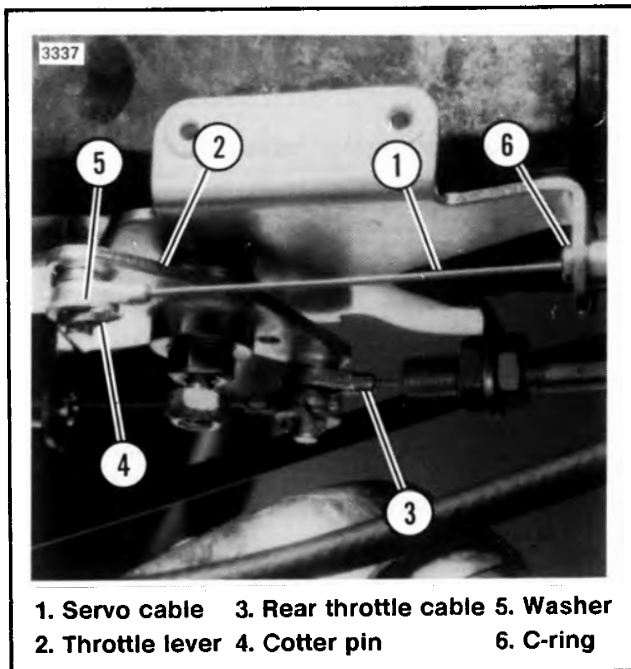
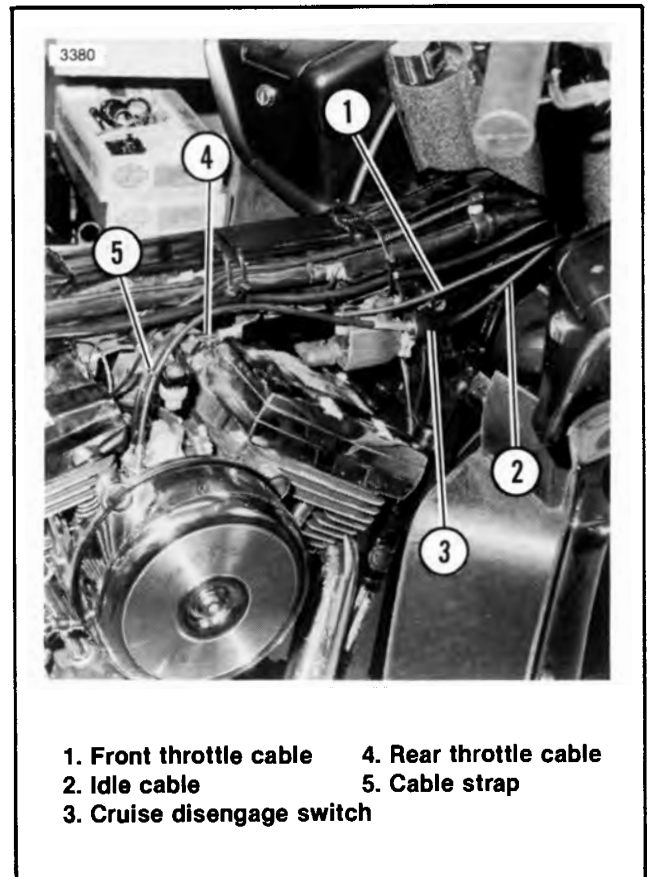
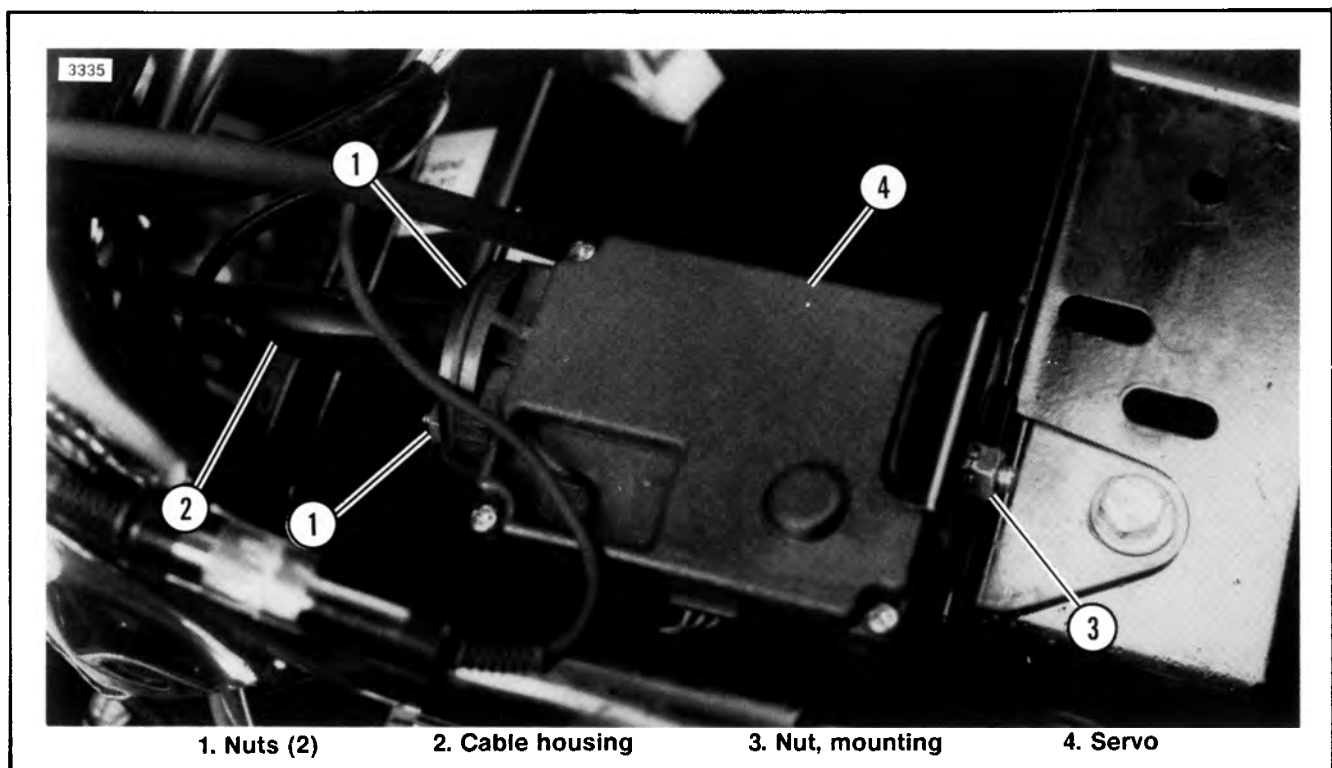

Figure 8-34. Cruise Throttle Cable Assembly
Figure 8-35. Idle, Rear and Front Throttle Cables
Figure 8-38. Servo, Cruise Control
See Figure 8-34. The cruise control servo cable (1) is connected to a bell crank or throttle lever (2). When the servo pulls or retracts cable (1) the bell crank pivots and pulls on the rear accelerator cable (3) opening the throttle plate at the carburetor. See Figure 8-35. The rider can open the throttle in the normal manner by twisting the right handgrip. This movement causes the front throttle cable (1) to pull the rear cable (4) and the throttle open. The idle control cable (2) allows rider to close the throttle by twisting handgrip outward and this cable contains an in-line switch (3) to disengage cruise control when throttle is rolled-back or closed.
See Figure 8-35. The throttle opening cable, cable (1) and (4), must be adjusted with the idle cable (2) completely loosened (slack). Therefore, adjust the cables in the sequence given in the procedure.
1. See Figure 8-35. With idle cable (2) still adjusted to full slack position, remove wires from the throttle, disengage (roll-off) switch (3) and connect an ohmmeter to the roll-off switch terminals. Ohmmeter must indicate infinity (switch contacts open). If ohmmeter indicates continuity, the roll-off switch may be shorted and entire cable must be replaced.
See Figure 8-34. The servo cable (1) does not require adjustment.
3. Remove jam nut (4) and unhook inner cable (5).
4. See Figure 8-35. Cut cable strap (5) and remove cable end from carburetor.
5. Install new cable following the reverse of the removal procedure. Bend ends of new cotter pin (7) tightly against sides of pin.
3. Remove C-ring (10) from cable conduit fitting and cable will be free.
6. Route new cable as shown in Figure 8-35 and connect other end of cable to throttle cable control assembly following the reverse of the removal steps 2 and 3.
2. See Figure 8-35. Remove cable from clamps (7), disconnect wires from switch (3) and cut cable straps (6).
5. Route the cable as shown in Figure 8-35.
1. See Figure 8-34. Remove cotter pin (4), washer (5) and cable (1) from pin on throttle lever (2).
2. Remove C-ring (6) from conduit fitting groove.
3. See Figure 8-38. Remove the two nuts (1) that attach cable housing (2) to servo. Pull cable forward and disengage inner cable from servo rack.
5. See Figure 8-34. Make certain C-ring (6) is in groove and ends of cotter pin (4) are bent around throttle lever pin.
2. Remove c-ring (5) that secures cable sheath or housing to cable bracket.
3. See Figure 8-38. Remove seat. Remove the two nuts (1) that attach cable housing (2) to servo. Pull cable forward and disengage inner cable from servo rack.
3. See Figure 8-38. Disconnect servo cable following step 3 in SERVO CABLE REMOVAL procedure.
4. Remove nut (3) and servo may be removed.